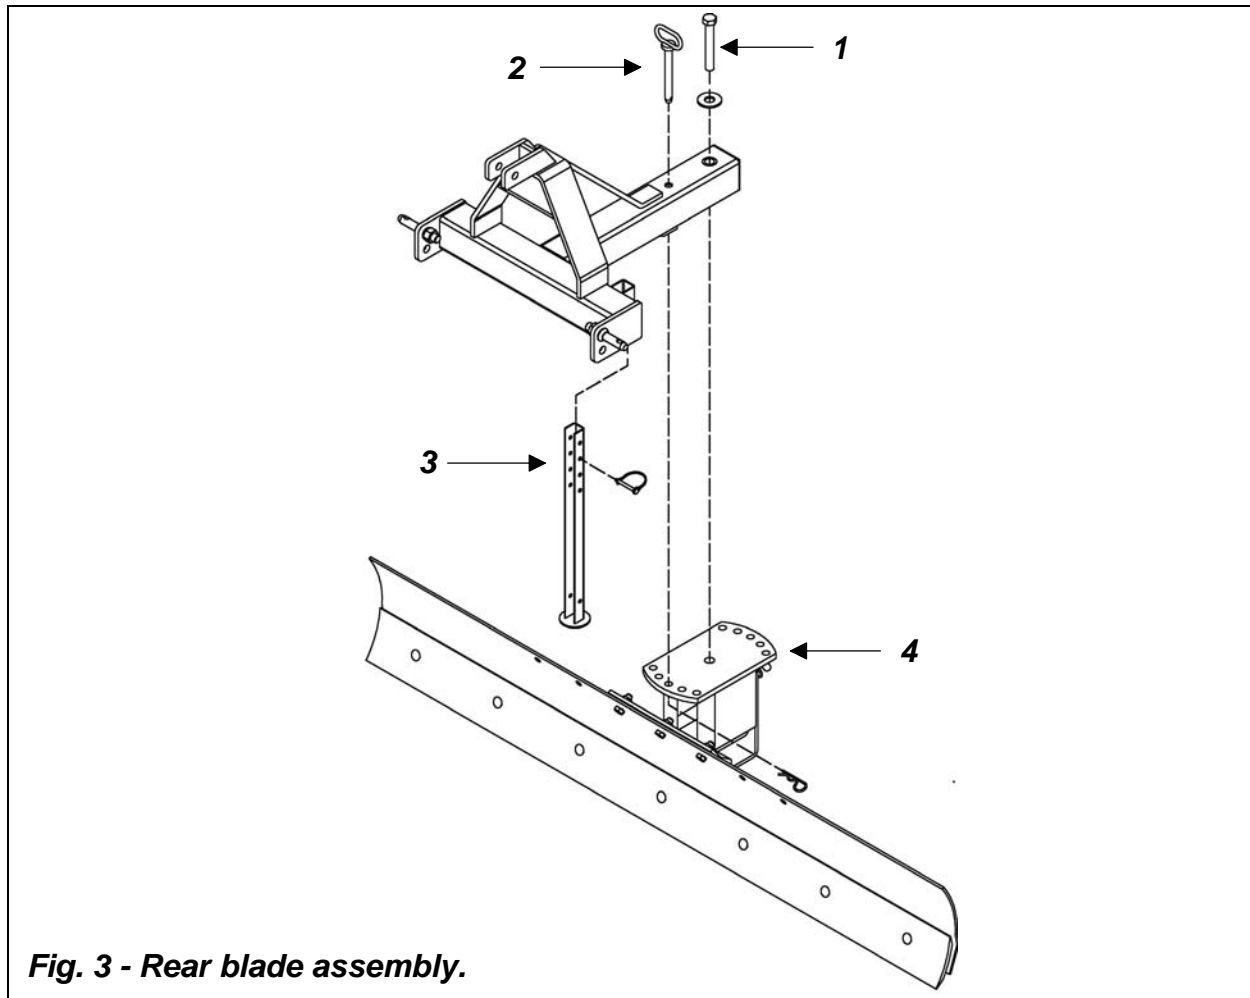

Fig. 3 - Rear blade assembly.
1. Securely block blade assembly with blocks or stands so that swivel plate (see #4, fig. 3) is facing upward.
2. Position the A-frame on top of the blade assembly, insert the swivel pin (see #2, fig. 3) and secure with hairpin cotter.
3. Insert the foot stand (see #3, fig. 3) in storage position to support the blade and secure with lynch pin.
4. Screw the pivot bolt (see #1, fig. 3) and washer (1"x6" bolt on the standard series or the 3/4"x5" bolt on the sub-compact series) to the welded nut on the blade assembly and tighten to correct torque⁴.
2. Loosen pivot bolt if necessary (**see #1, fig. 3**).
3. Remove the hairpin cotter and pull out swivel pin (**see #2, fig. 3**).